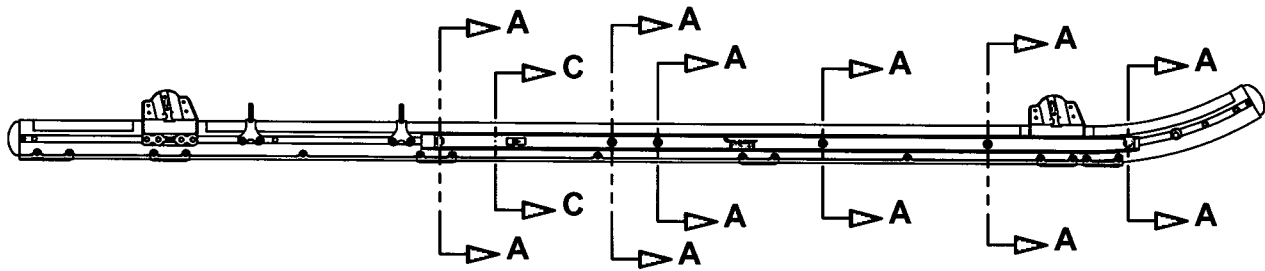

FIGURE 1: D119-646-314 SKIDTUBE PROTECTOR KIT, RH (SHOWN)
- 2.13 Install D5369-2 Cable Guard on the RH side of the aircraft using 6x AN3-47A bolts, 6x D5374-1 Bushings, 6x D4506-3 Washers, 12x NAS11490D332J washers, 6x MS21042L3 nuts as shown in Figure 1 Section A-A. Torque bolts to 15-25 in-lbs (1.7-2.8 N-m).
- 2.14 Install D5369-1 Cable Guard on the LH side of the aircraft using 6x AN3-47A bolts, 6x D5374-1 Bushings, 6x D4506-3 Washers, 12x NAS11490D332J washers, 6x MS21042L3 nuts as shown in Figure 1 Section A-A. Torque bolts to 15-25 in-lbs (1.7-2.8 N-m).